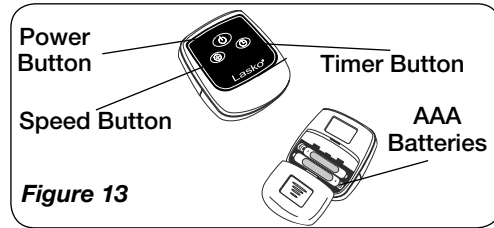

Figure 13
This Fan may be operated by the Manual Controls located on front of the unit or by the Remote Control (shown in Figure 13).
1. Install batteries (not supplied) as shown in *Figure 13*. The battery is size "AAA".